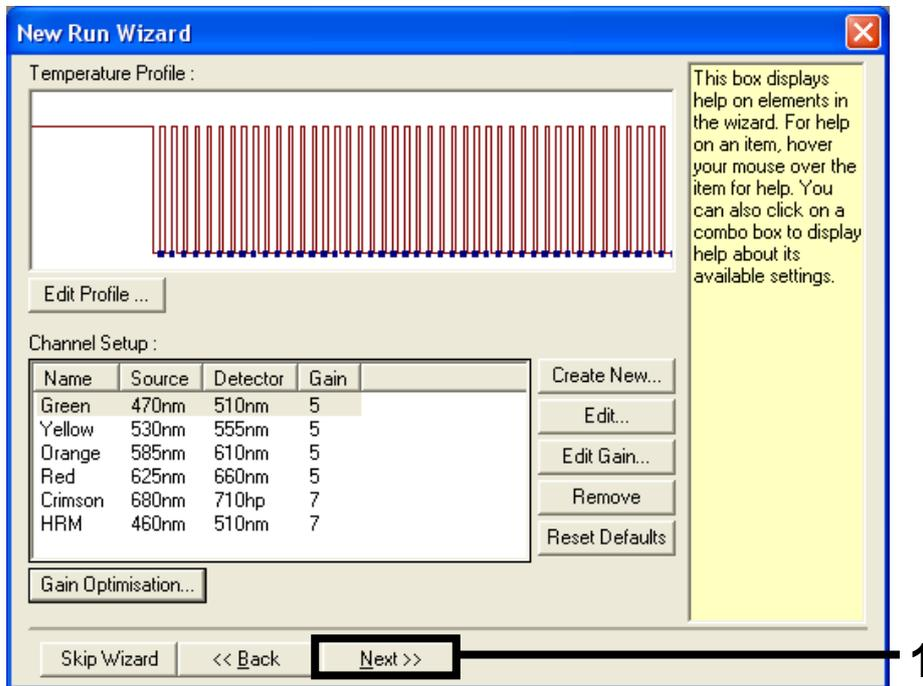

Figure 35. The "New Run Wizard" dialog box and temperature editing screen. (1 = "Next" button).
5. The next window allows editing of the temperature profile. No editing is required as the temperature profile has already been created according to the instructions in "Protocol: Creating a temperature profile", page 55. Click "Next" (Figure 35).